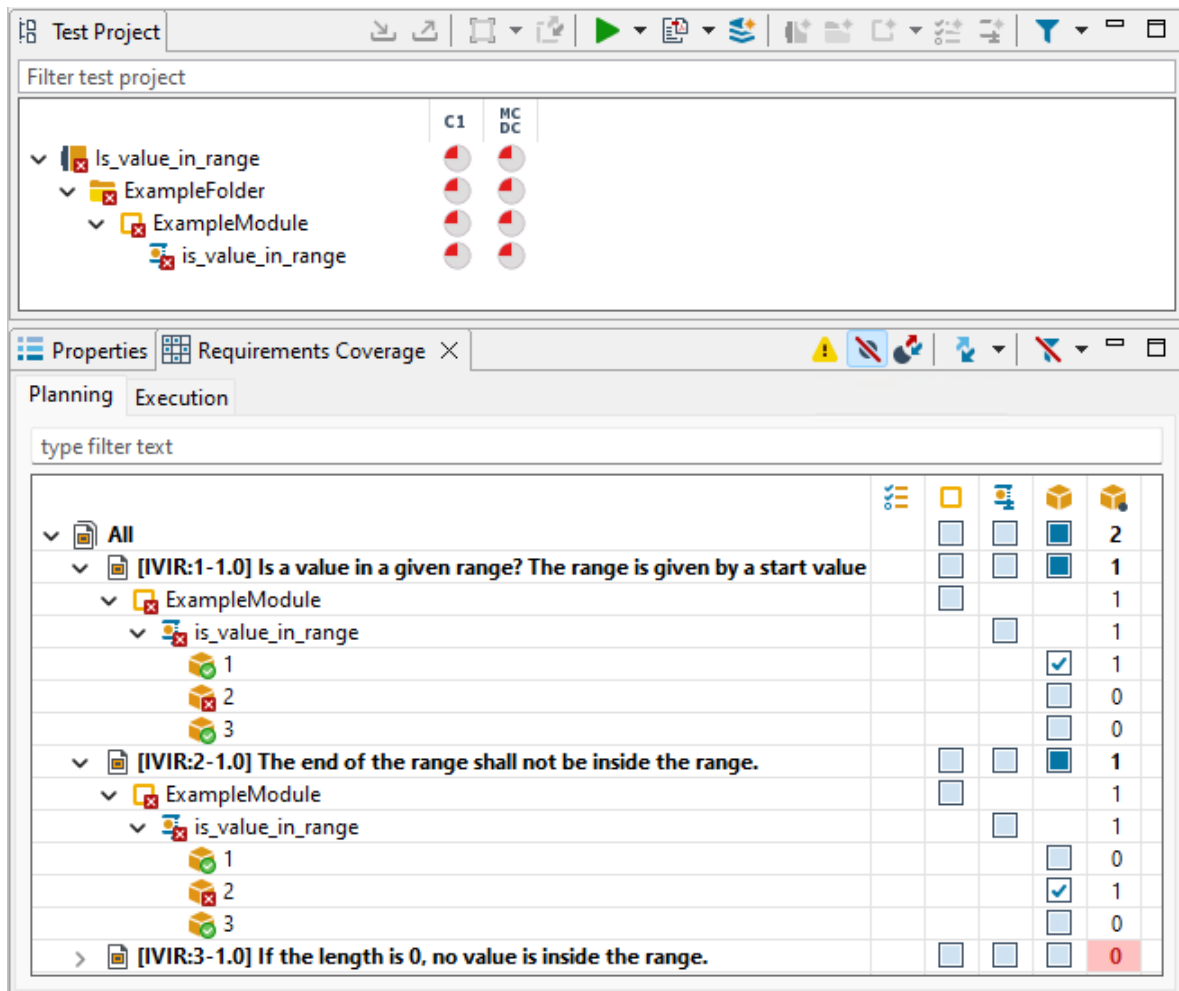

Figure 5.34: Linking test cases with requirements
- Link the second test case with the second requirement (see figure 5.34). The third requirement is not linked.